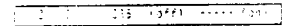

Fig.12.
- b Start searching for the channel with $\Delta+$ (up) or $\nabla-$ (down). The CH position changes colour. (See Fig. 12.) The CH number starts counting up or downwards. When a channel is found, it stops. (See Fig. 13.)